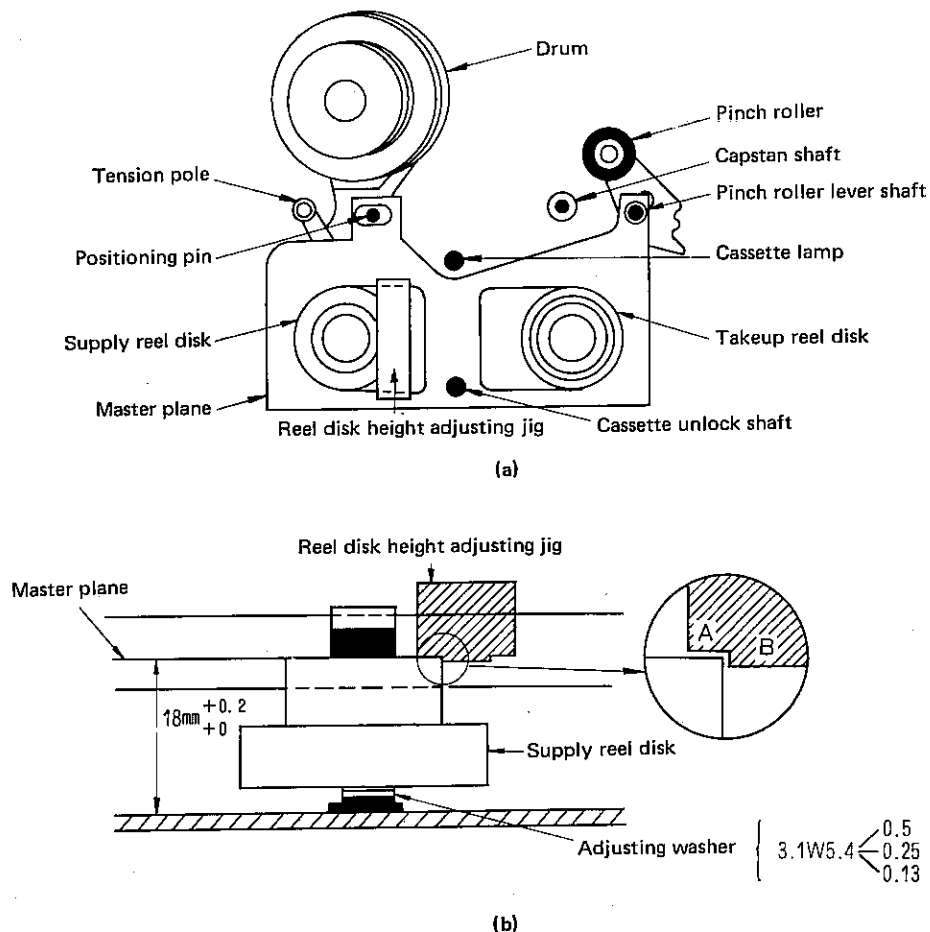

Figure 12.
1. Remove the cassette housing. Set the master plane in the mechanism as shown in Figure 12-(a). Use care so that the master plane should not contact the drum.
2. Using the reel disk height adjusting jib, check if the top of the reel disk is lower than A and higher than B (see Figure 12-(b)). If the height is wrong, make adjustment